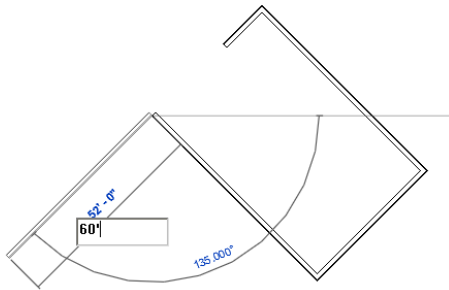

Figure 3-47 Sketching the fifth inclined wall segment
8. Similarly, create the fifth inclined wall segment of 60'(18288 mm) length, as shown in Figure 3-47.